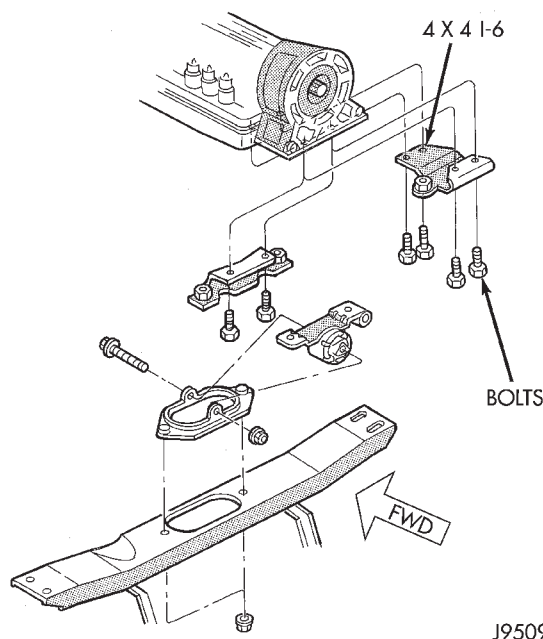

Fig. 24 Engine Mount—Rear
A resilient rubber cushion bracket assembly supports the transmission at the rear. This bracket is attached to the crossmember (Fig. 24).
- (1) Disconnect the negative cable from the battery.
- (2) Raise the vehicle and support the transmission.
- (3) Remove the nuts holding the clevis bracket to the crossmember (Fig. 24).
- (4) Raise the transmission SLIGHTLY.
- (5) Remove the thru-bolt and nut (Fig. 24). Remove the rear mount bracket clevis.
- (6) Remove the bolts holding the rear mount bracket to the transmission (Fig. 24). Remove the bracket from the exhaust pipe hanger. Remove the bracket.
- (1) Position the rear mount bracket onto the exhaust hanger. Position the rear mount bracket assembly onto the transmission and install the bolts (Fig. 24). Tighten the bolts to the proper torque:
- (2) Install the thru-bolt into the rear mount bracket and clevis (Fig. 24). Finger tighten the nut at this time.
- (3) Lower the transmission until the clevis bracket studs are in position on the crossmember (Fig. 24). Install the clevis bracket stud nuts. Tighten the nuts to 41 N·m (30 ft. lbs) torque.
- (4) Tighten the thru-bolt nut to 121 N·m (89 ft. lbs.) torque.
- (5) Remove the transmission support.
- (6) Lower the vehicle.
- (7) Connect the negative cable to the battery.